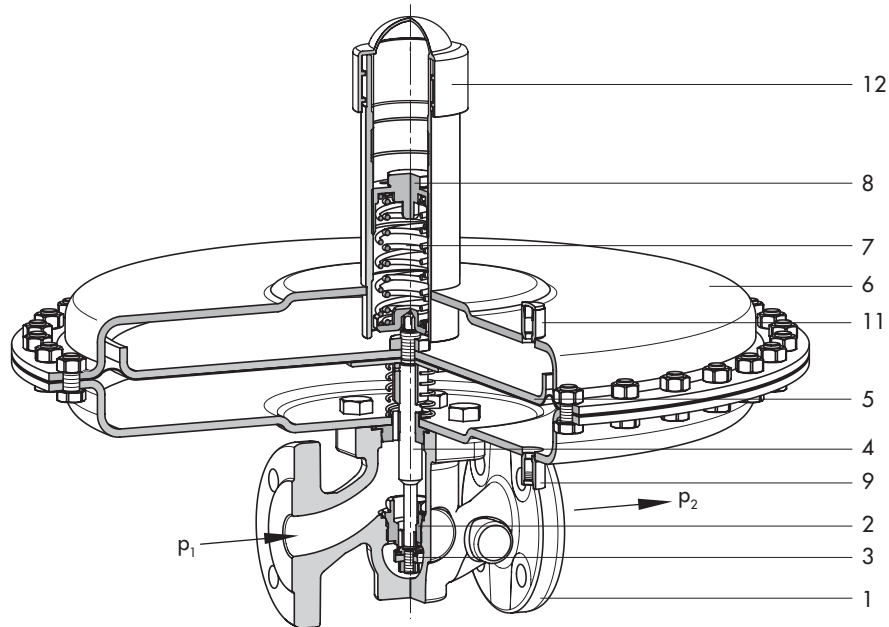

Fig. 3: Type 2405 Pressure Reducing Valve *without* pressure balancing · C_v 2 to 5 · Flow-to-open
– Pressure reducing valve with proportional control action (see Fig. 3)